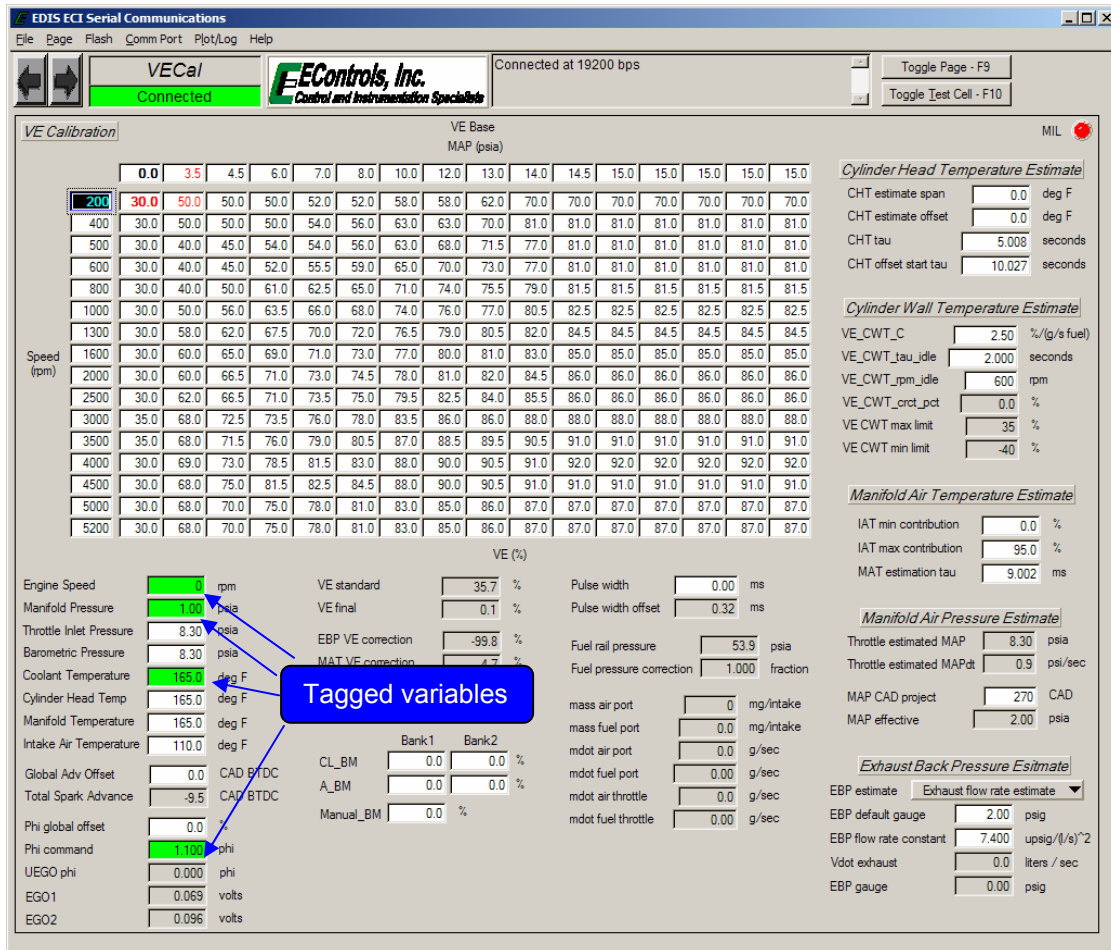

Figure 24: Tagged Variables for Plot/Log
The Plot/Log menu allows the user to graphically plot or numerically log variables that have been tagged for plotting/logging. To plot or log variables, a tag must be assigned to each variable of interest. A variable is tagged for plotting/logging through a single right-mouse click in the variable's vicinity. Once a variable has been tagged for plotting/logging it is highlighted in green. Figure 24 shows an example of variables that have been tagged. A maximum of twenty (20) variables may be tagged for logging and a maximum of ten (10) variables may be tagged for plotting. The maximum achievable sample frequency/minimum period is dependent on the number of variables tagged. The equation below can be used to calculate the minimum sample period for a given selection of variables.